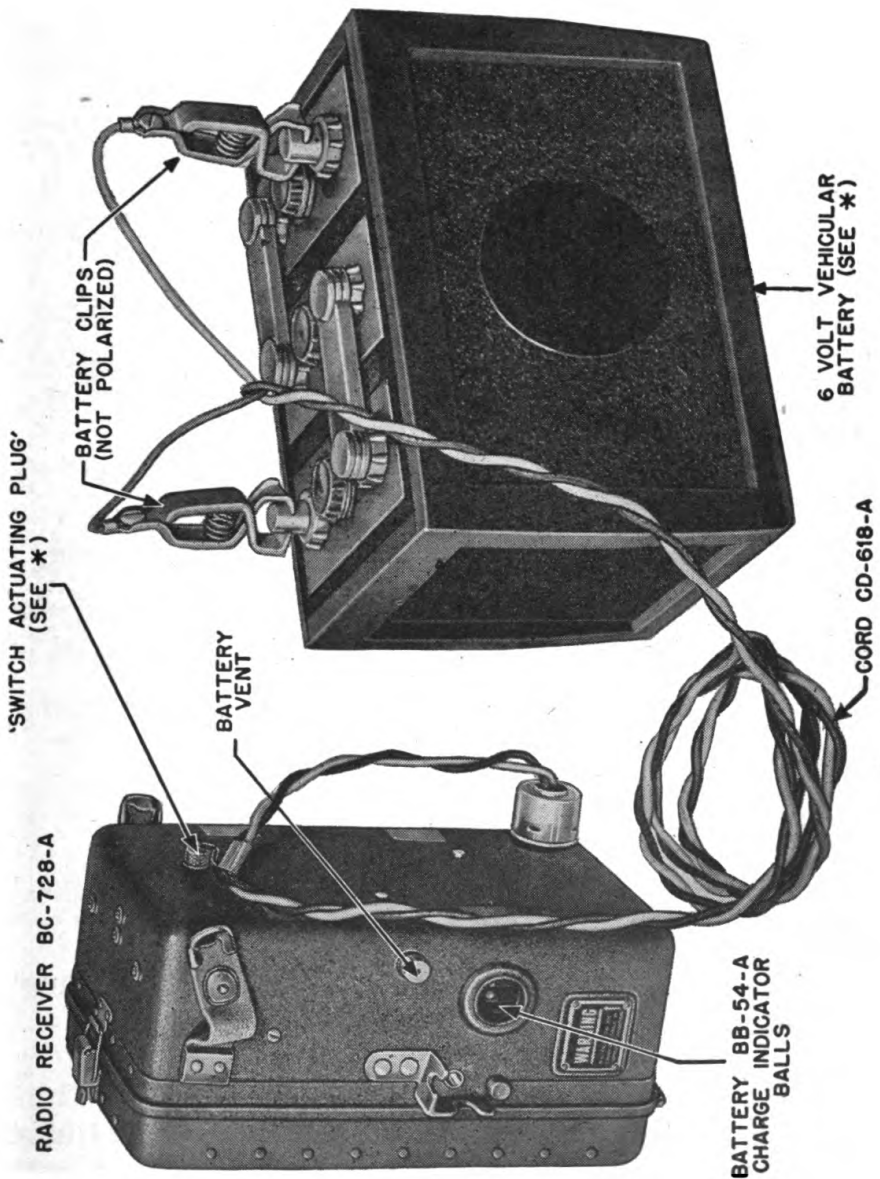

FIGURE 11—METHOD OF CHARGING RECEIVER BATTERY BB-54-A, USING CORD CD-618-A, AND EXTERNAL 6 VOLT VEHICULAR BATTERY
e. Cord CD-618-A.—This is a two-conductor cable used to connect the battery charger circuit to a six or twelve volt vehicular battery, for the purpose of charging Battery BB-54-A when the radio set is in portable operation, or not installed in a vehicle. The cord is equipped with a pair of battery clips on one end and a four-prong receptacle on the other. So that the two volt battery may be charged from either a six or twelve volt vehicular battery, a plug is provided, and attached to Cord CD-618-A by means of a chain, for actuating the six-twelve volt battery charger change-over switch. (See Figure 11.) This figure also shows Radio Receiver BC-728-A connected to a six volt vehicular battery with the switch actuator plug in position. The plug is not inserted when a twelve volt vehicular battery is used.
b. Battery BB-54-A may be charged from a six-volt (three-cell) or twelve volt (six cell) vehicle battery, and Cord CD-618-A connects the battery charger to the battery. (See Figure 11.) A plug is attached to the cord for actuating the six-twelve volt switch in the radio set. Figure 11 shows the plug in position when charging from a six volt battery.